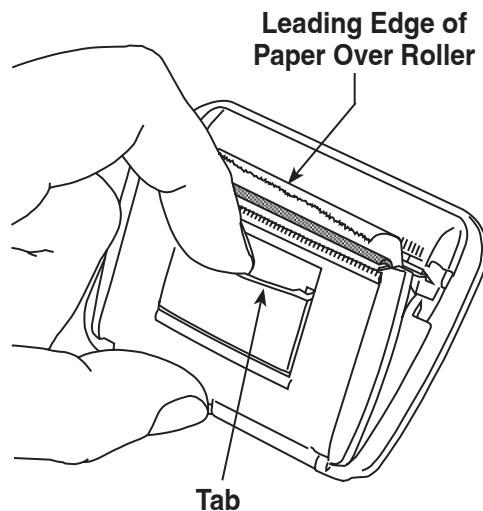

Figure 15
1. Remove the cover on the printer by pulling out on the tab as shown in Figure 15.
8. Place the printer into the cut-out area on the control panel. Press the face of the printer flush to the panel, oriented with the paper coming out at the top of the printer as shown in Figure 15.